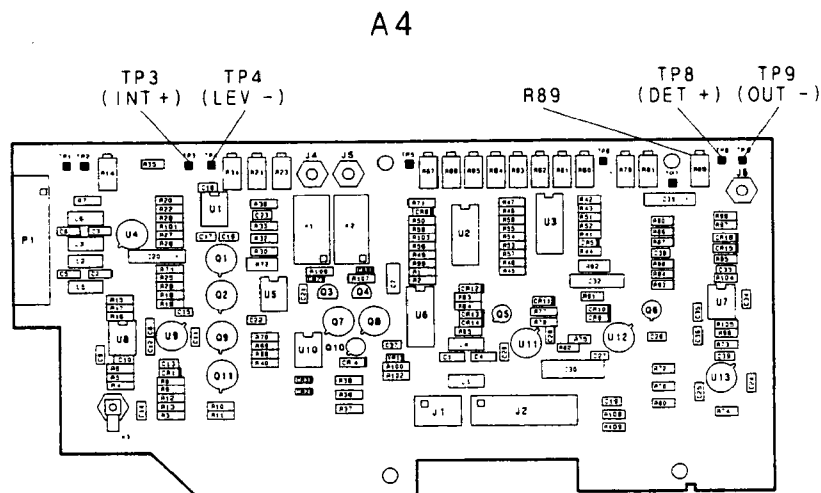

Figure 5-6. Exponential Adjustment Location
1. Connect DVM LO to A4TP4 (–) and DVM HI to A4TP3 (+). See Figure 5-6.